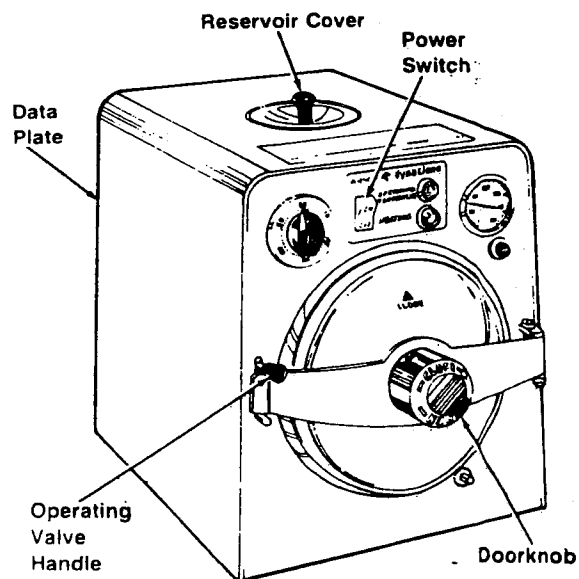

Figure 1. Sterilizer.
1. AT THE BEGINNING OF THE DAY (Refer to Fig. 1).